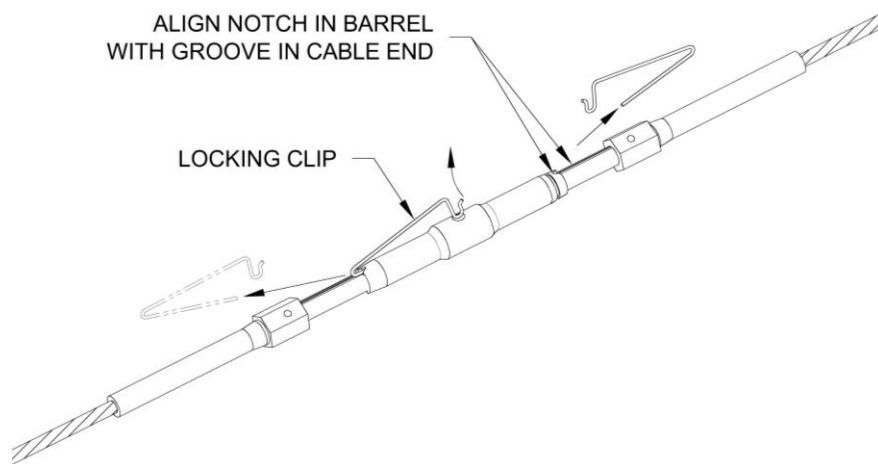

Figure 17: Locking clip removal
2. Remove the stabilator control cable barrel lock clips from one barrel as shown in **Figure 17**. Locking clips are one use only. Clips must be discarded after removal.
Adjust turnbuckles an equal number of turns each to achieve 35-45 lbs of tension with the groove in the cable ends aligned with a V-notch in each turnbuckle barrel as shown in Figure 17. This tension will prevent the cables from "slapping" against the tailcone bulkheads when the control sticks are moved suddenly and repeatedly forward then aft.
10. Once the proper tension is achieved, and no more than three threads are exposed from the ends of the barrels, align the V-notch in the ends of the barrel with the groove in the cable ends and then insert the lock clips as shown in Figure 17. The hook end of the lock clips are inserted into the hole in the center of the barrel and must be completely pressed in until the hook springs open inside the barrel.